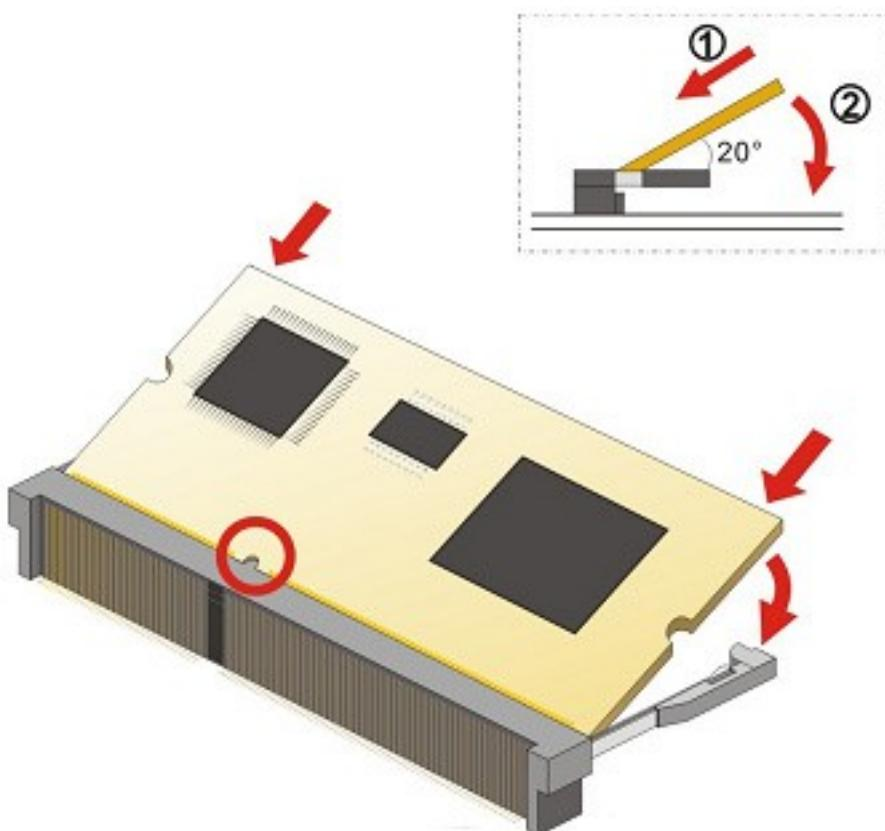

Figure 4-7: iRIS-2400 Module Installation
To install the iRIS-2400 module, please follow the steps below and refer to Figure 4-7.
Step 3: Insert the iRIS-2400 module. Push the module in at a 20° angle (**Figure 4-7**).
Step 4: Seat the iRIS-2400 module. Gently push downwards and the arms clip into place (**Figure 4-7**).